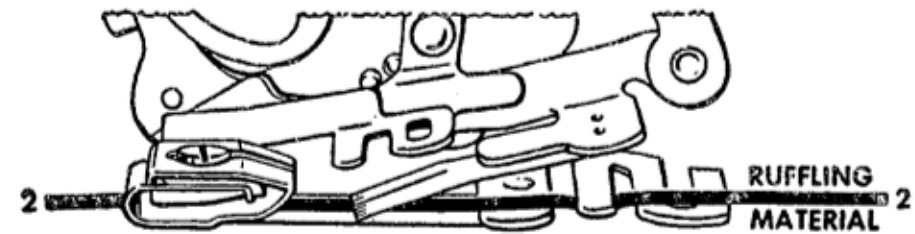

Fig. 64. Correct Position for Material to be Ruffled
3. Insert material to be ruffled between two blue blades **Line 2**, Fig. 64.